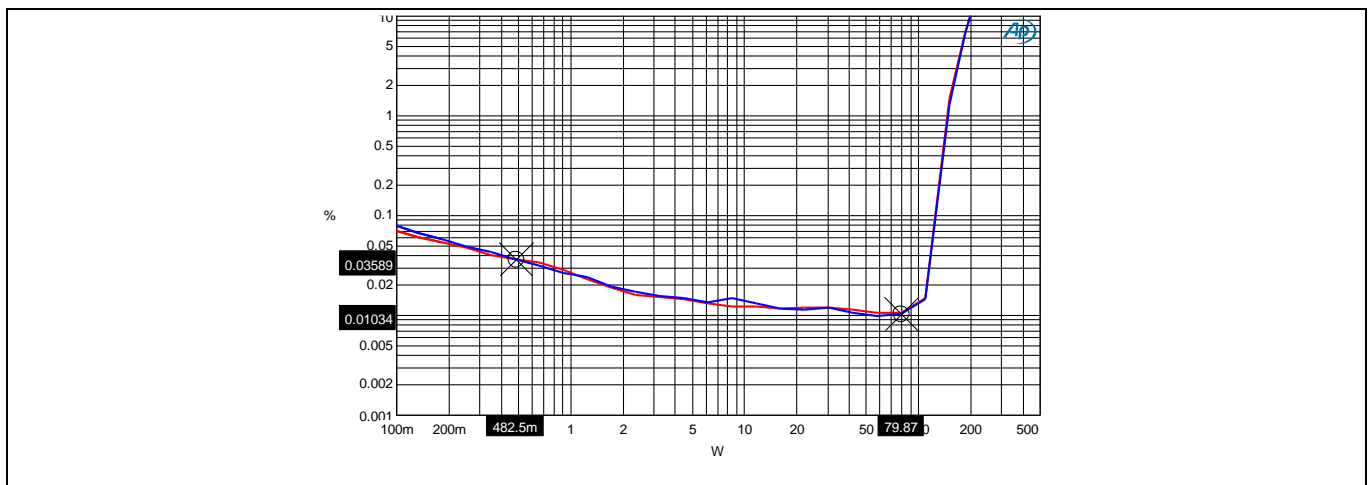

Figure 5 Power vs. THD+N  $4\ \Omega$  load
8. Run the AP test as shown in Figures 5 to 12, below.